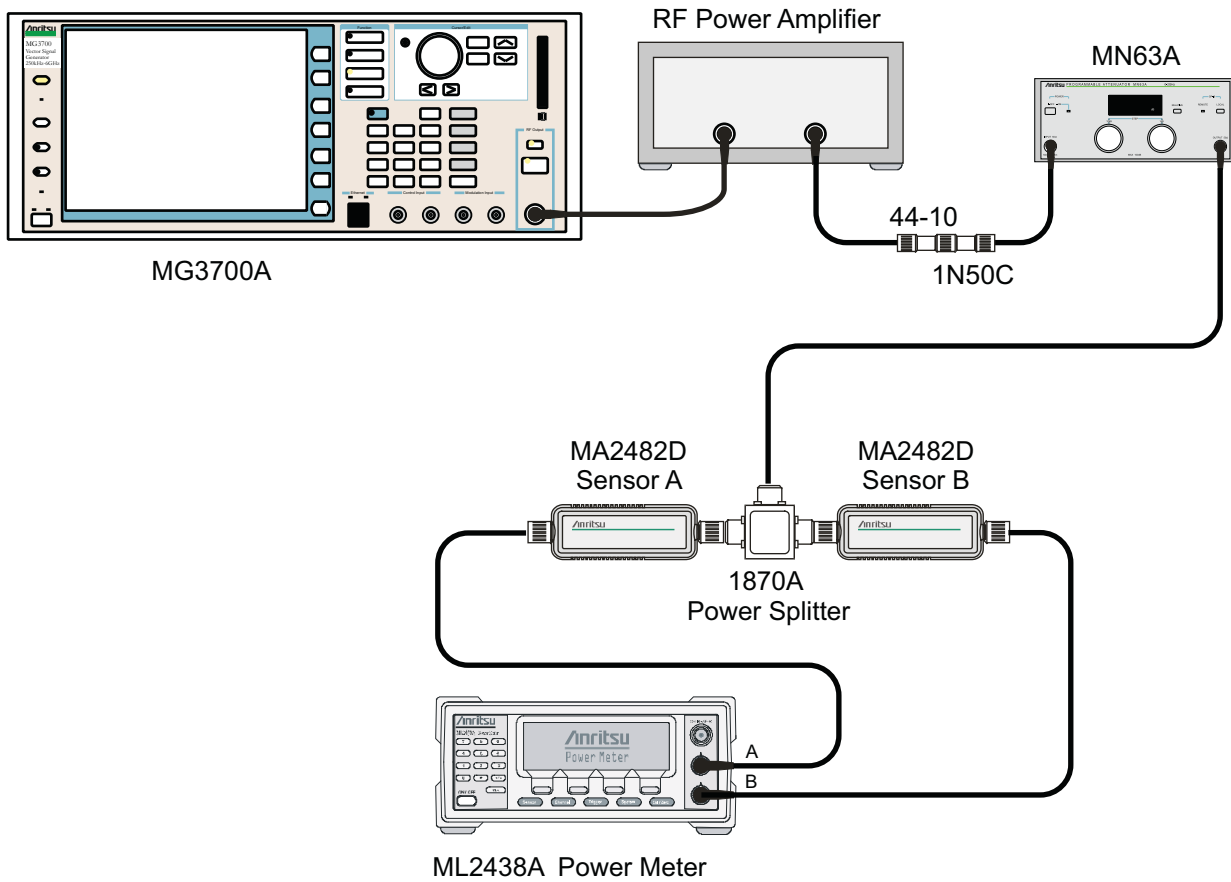

Figure 5-2. ISDB-T Level Accuracy and 1 dB Compression Level Pre-test Setup
3. Connect the MG3700A Signal Generator, Power Amplifier with N(f)-BNC(m) adapters, RF Limiter, MN63A Programmable Attenuator, Power Divider, Power Meter, and Power Sensors as shown in Figure 5-2.
42. Turn Off the power amplifier, disconnect the power splitter from the MT821xE, and re-connect Sensor A to the power splitter as shown in Figure 5-2 on page 5-10.